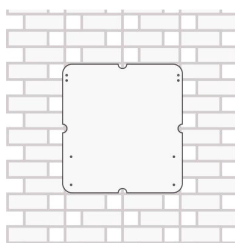

Figure 3-8
1. Use the positioning cardboard (provided in accessory package) and mark the screw hole positions on the wall. Shown as Figure 3-8.